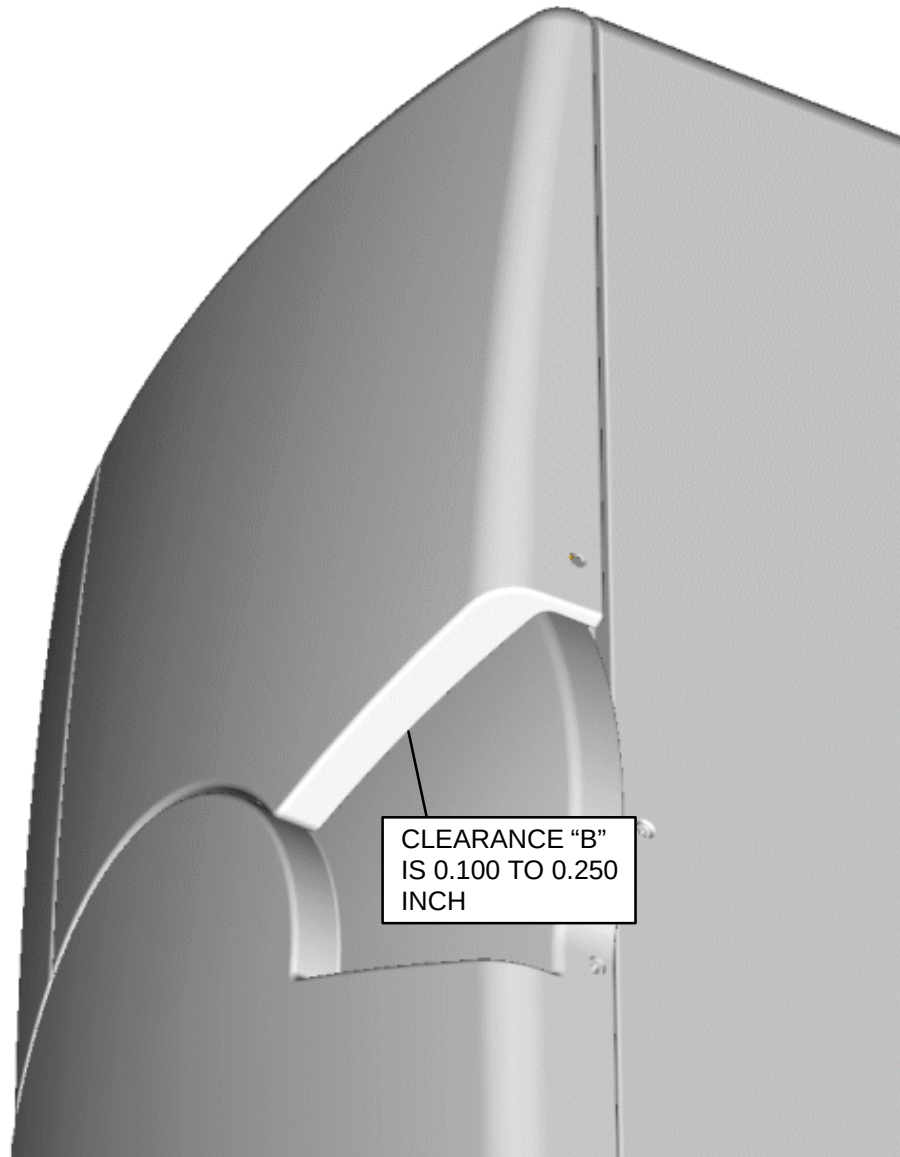

FIGURE 15 CLEARANCE "B" CHECK
6. Check clearance "B", between the Upper Right Column Cover and the Lower Right Column Cover. Refer to Figure 15.